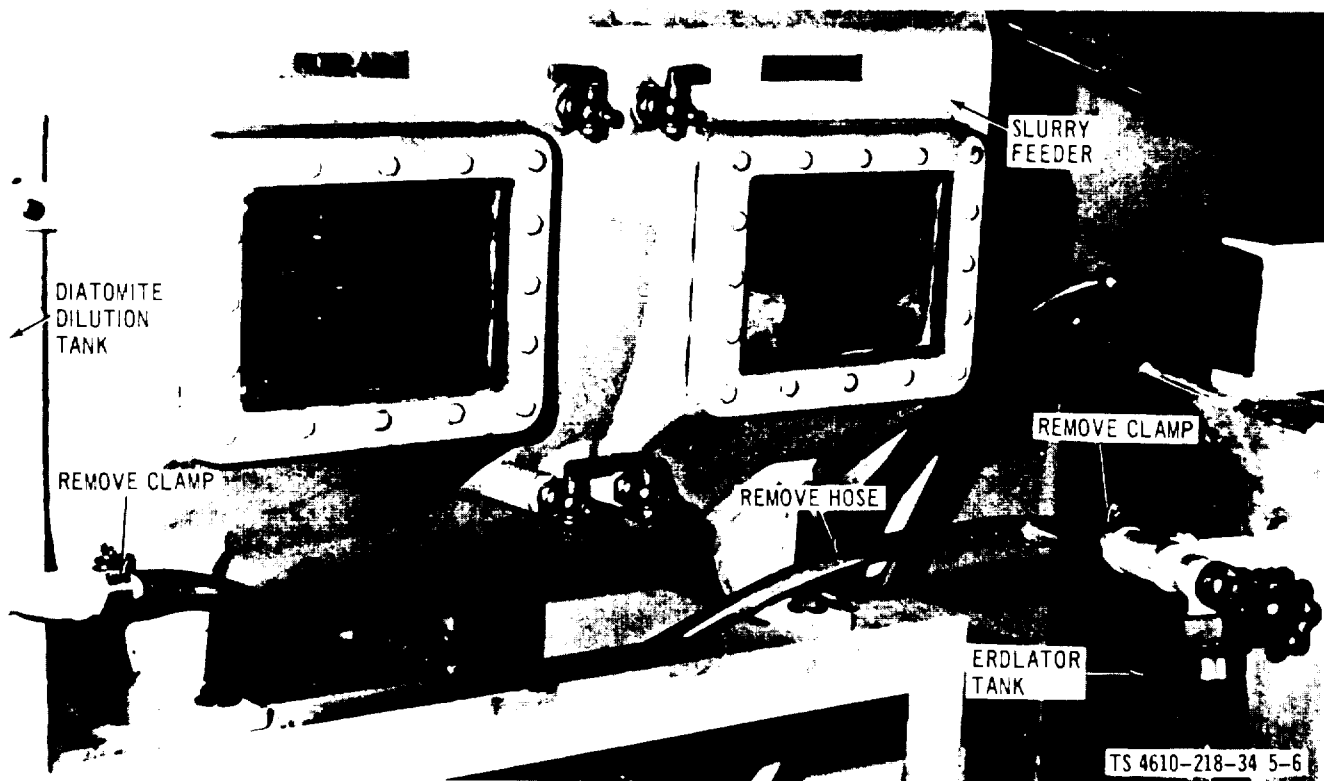
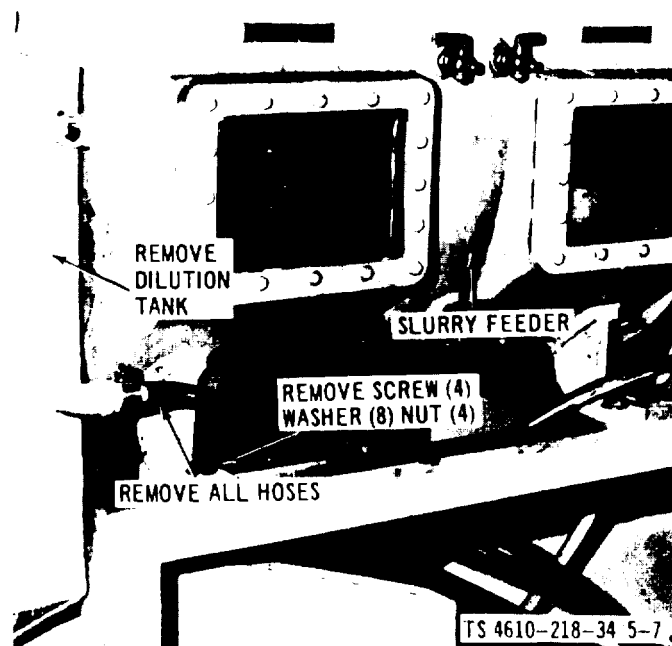

Figure 5-6. Erdlator Coagulated Water Tubing Between Erdlator Tank and Diatomite Dilution Tank.
Figure 5-7. Chemical Slurry Feeder, Removal and Installation
(5) Refer to figure 5-6 for removal of tubing between the dilution tank and erdlator tank.
(6) Remove all other parts as necessary.
(7) Refer to figure 5-7 and remove the chemical slurry feeder tank as illustrated.
(2) Refer to figure 5-7 and install the chemical slurry feeder tank.
(3) Install the tubing between the dilution tank and the erdlator tank as illustrated in figure 5-6.